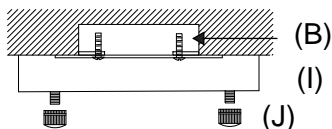

Fig. 4
Fix the canopy (I) onto the (B) with nut (J) provided (Fig. 4).